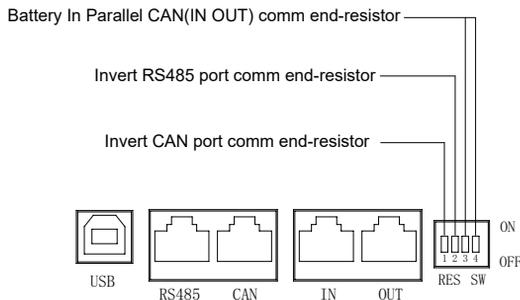

Figure 5-5: Operation of RES-SW switch introduction
1.In order to improve the stability of parallel CAN bus communication between batteries , a “RES-SW” switch is needed ,please operate it with the following introduction (as shown in figure 5-5)